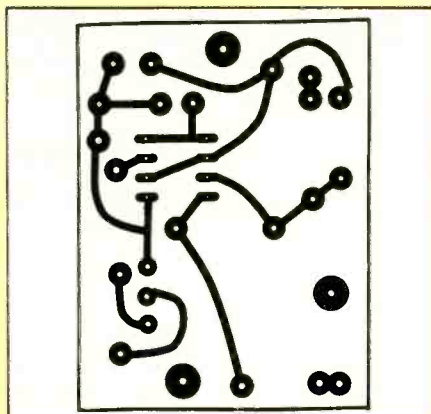

Fig. 2. Actual-size printed-circuit etching-and-drilling guide.
Because its circuitry is so simple, this is a very easy project to build. There is nothing critical about circuit layout. If you would like printed-circuit wiring, use the actual-size etching-and-drilling guide shown in Fig. 2 to fabricate the board. Otherwise, use a piece of perforated board with holes on 0.1-inch centers and suitable Wire Wrap or soldering hardware to build the circuit. Regardless of the wiring technique chosen, it is a good idea to use a socket for the 555 timer chip.
Fig. 2. Basic derived exponential waveforms: (A) single-section RC circuit; (B) two-section RC circuit; (C) three-section RC circuit; (D); universal time-constant chart for leading edge of output waveform; (E) universal time-constant chart for trailing edge of output waveform.